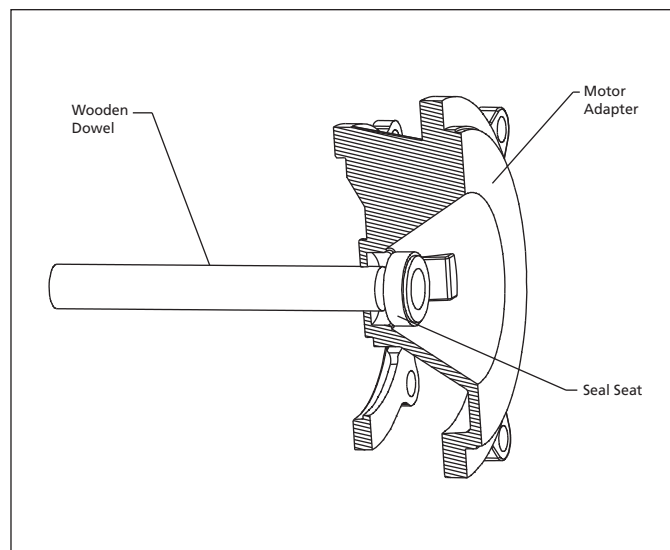

Figure 4 - Seal Seat Removal
6. Use a wooden dowel to push out the seal seat (part of Ref. No. 6) from the adapter (Ref. No. 4) (See Figure 4).